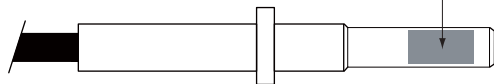

Fig. 3 - Female contact/fibre crimping area
- For the female contact: unscrew the back of the contact, pull out the internal central part; on Figure 3 is indicated the crimping area (front part of contact).